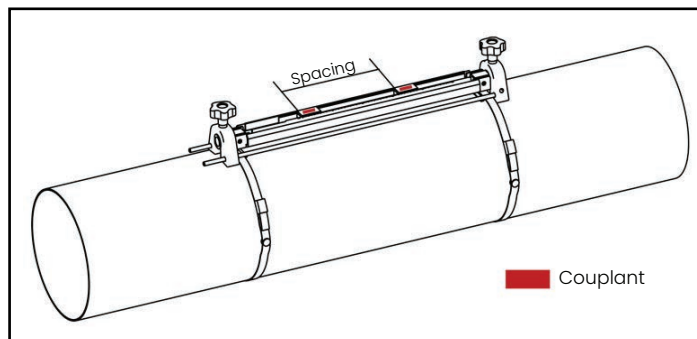

Figure 13: Set Transducer Spacing and Apply Couplant
- b. Set the transducers to the spacing calculated by the meter. If you are using solid couplant, apply it to both transducer faces. Then, rotate the transducers back onto the rail (see Figure 13 below).